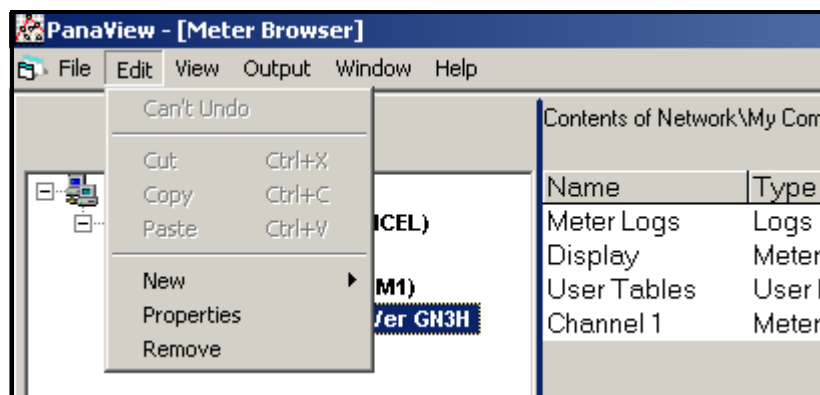

Figure 5-3: The *Properties* Option in the *Edit* Menu
2. Open the *Edit* menu and select the *Properties* option, as shown in Figure 5-3 below.